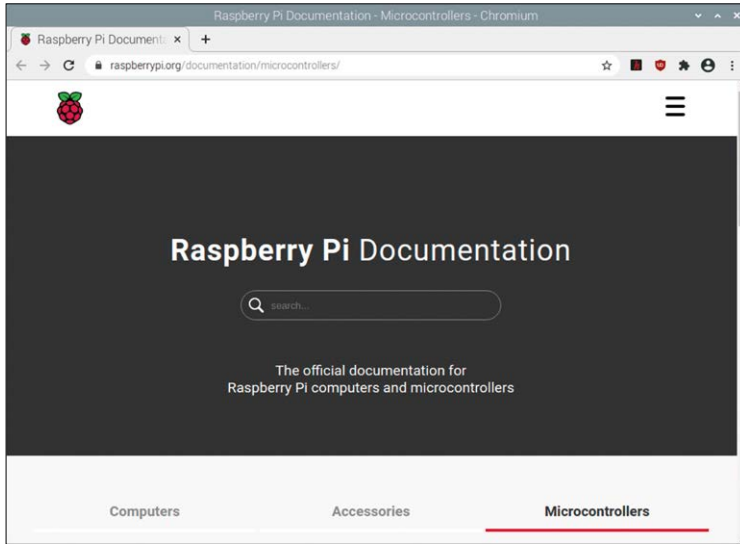

Figure 2.3: Displayed message.
- You should see the message **Raspberry Pi Documentation** displayed in a web page (Figure 2.3).